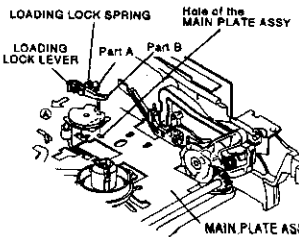

Fig. 2-30-1
1 Remove the part A of the LOADING LOCK SPRING shown in Fig. 2-30-1 through the hole of the MAIN PLATE ASSY.
2 Move the LOADING LOCK LEVER in the direction shown by arrow (A) with pushing the part B of it to remove the LOADING LOCK LEVER and LOADING LOCK SPRING as shown in Fig. 2-30-1.
3 Install the LOADING LOCK LEVER with the LOADING LOCK SPRING attached shown in Fig. 2-30-1 on the MAIN PLATE ASSY.
4 Insert the part A of the LOADING LOCK SPRING shown in Fig. 2-30-1 into the hole of the LOADING LOCK LEVER.